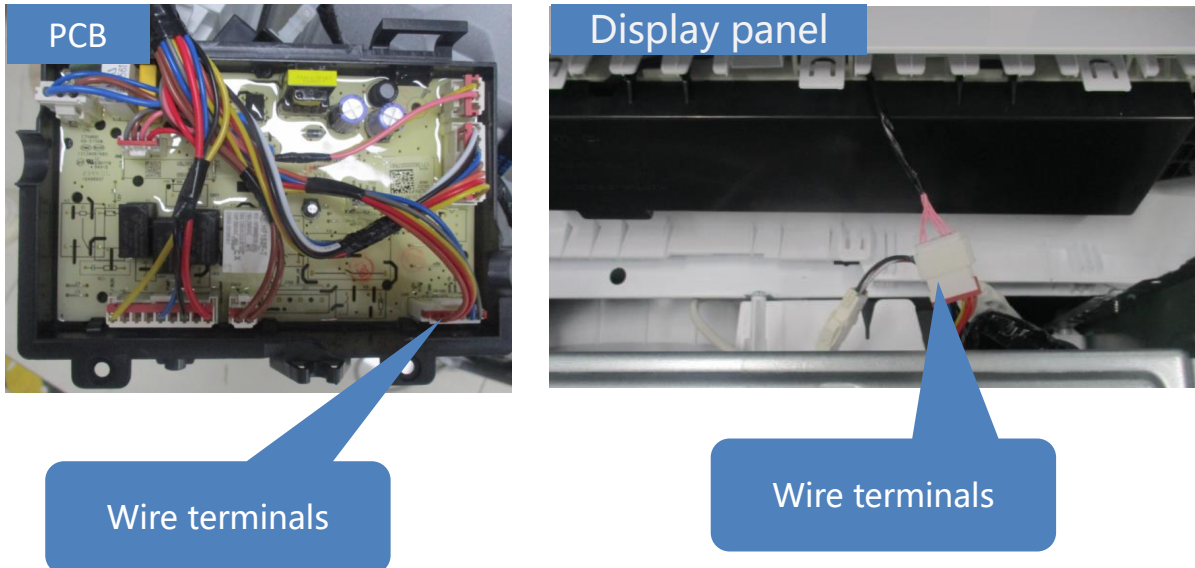

Fig.1
- ① If the communication cable connector is loosen the E82 warning will occur when the dryer machine is running. It' s recommended that user need to confirm the communication cable connector is fixed. (Fig.1)